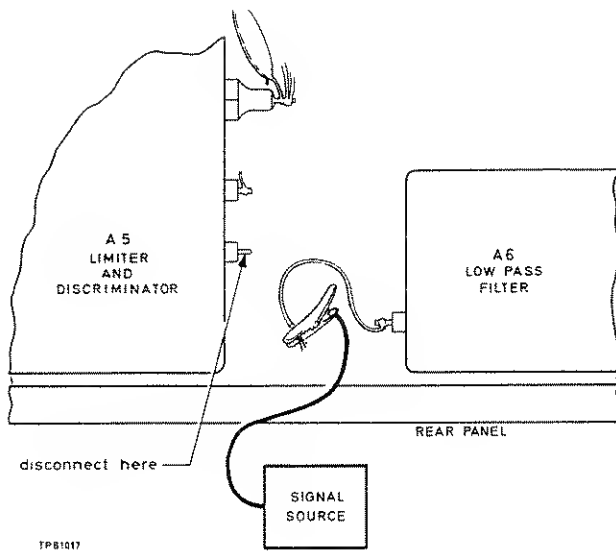

Fig. 5.3 Location of discriminator output lead
- (1) Connect the r.m.s. voltmeter and the oscilloscope to the OUTPUT socket.
- (2) Turn the OSCILLATOR switch to EXT.
- (3) Connect the 1.5 MHz crystal oscillator to the RF IN socket and turn the FREQUENCY RESPONSE switch to NOISE.
- (4) Turn the FUNCTION switch to SET FREQ FM and check that the meter deflects to the SET mark.
- (5) Turn the FUNCTION switch to TUNE and adjust the LEVEL control to bring the meter reading to the top end of the black arc.
- (6) Turn the FUNCTION switch to SET CAL and adjust the r.m.s. voltmeter range switch to give a convenient reference level. Note this reference level.
- (7) Turn the FUNCTION switch to DEV+ and the MODULATION RANGE switch to 5 kHz. Increase the external voltmeter sensitivity and check that the reading is at least 55 dB below the reference level, i.e. -75 dB relative to the level of 50 kHz deviation. If satisfactory, then noise is not due to the discriminator or l.f. circuits but may be due to the oscillator or the power supply.
- (8) If not satisfactory, remove the yellow lead from the discriminator output, A5 pin 4 (see Fig. 5.3) and check that the noise level drops to at least -68 dB. A high noise figure can be improved by selection of transistors VT3, VT4, VT5 (most prone to cause noise) and VT6 in the discriminator (A5). The noise display on the oscilloscope should be free of any ripple or hum components, if these are present suspect unit A13, IC3 and IC4 (-18 V and -12 V regulators).